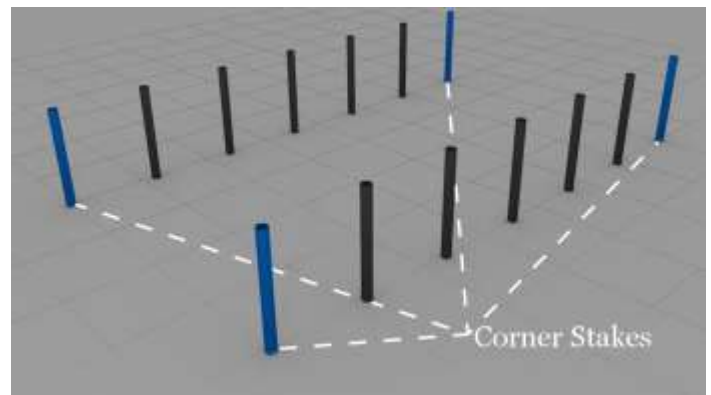

Fig 1.1 Ground Stakes
- Drive corner stakes and then drive the rest of the stakes on **4 ft centers**(Fig 1.1).